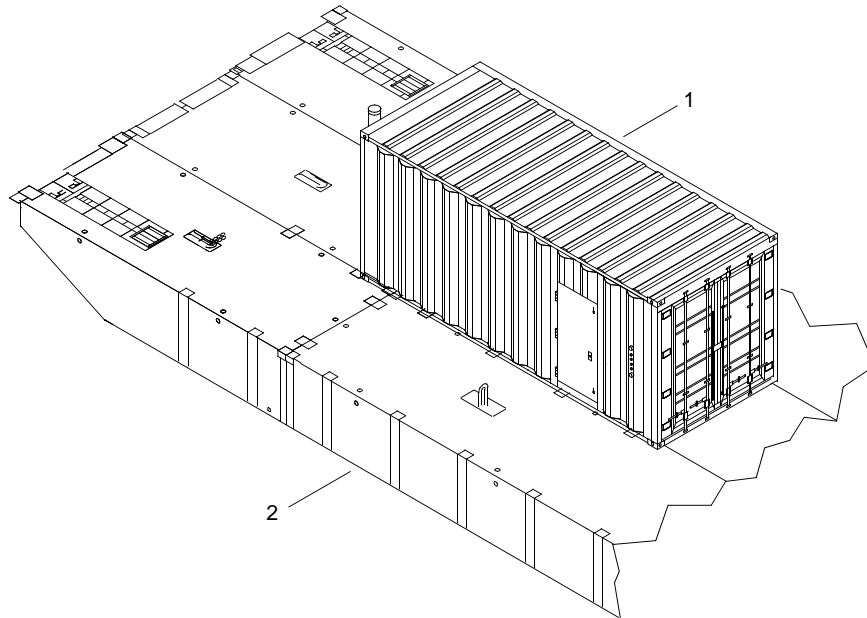

Figure 24. Generator Container
1. Using crane, position generator container (figure 24, item 1) on FC pierhead (figure 24, item 2).